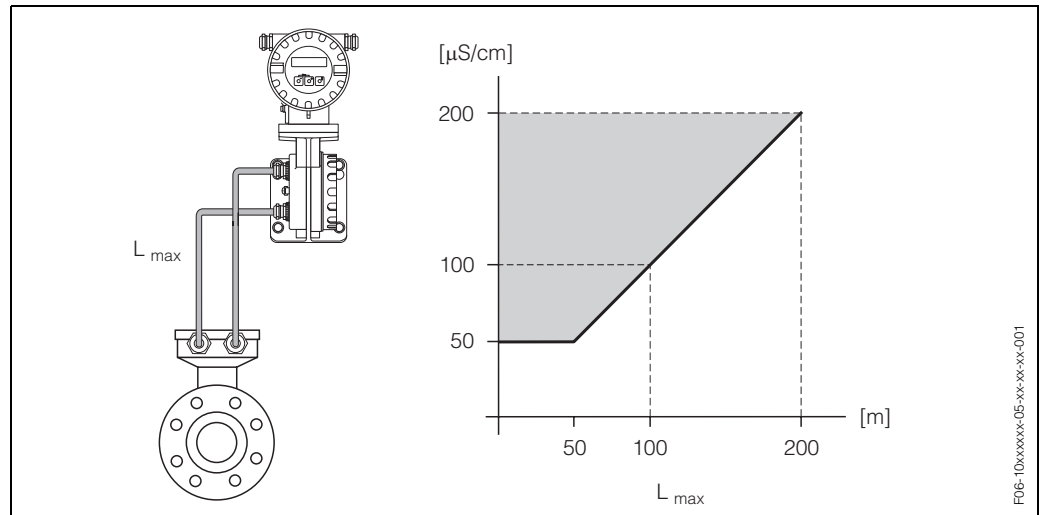

Fig. 15: Permissible cable length for the remote version
- The permissible cable length L_{max} depends on the fluid conductivity (Fig. 15). For all fluids a minimum conductivity of $50 \mu\text{S/cm}$ is required.